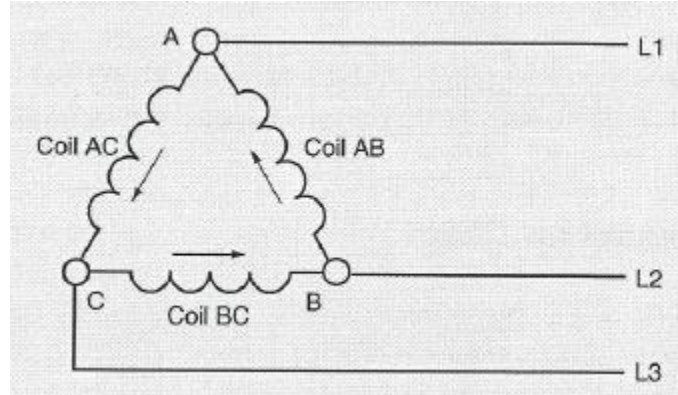
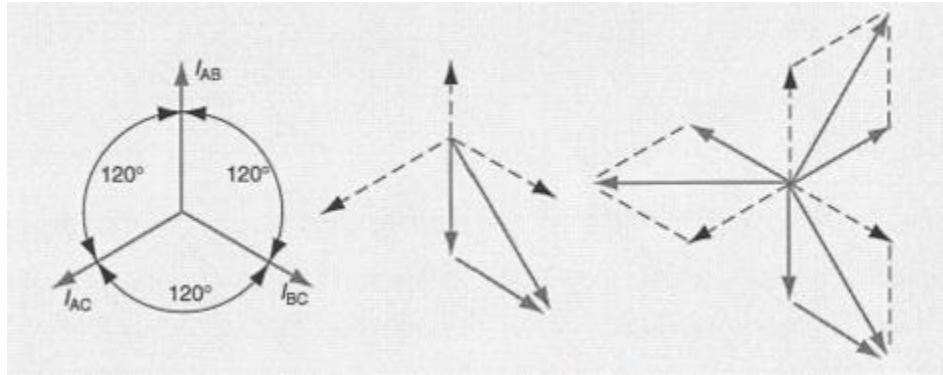

Figure 7.7: Three-Phase Delta-Connected Alternator
Figure 7.8: Vector Diagram for Currents
7-19 Some alternators are connected so that the three coils form a continuous loop. Their ends are connected together in series as shown in Figure 7.7. Such an alternator is said to be *delta-connected* because in a diagram, the three coils make a triangular shape that looks like the Greek capital letter *delta*.
7-20 Line connections are made at the junctions between coils, as shown in Fig. 7-7. Because of these connections, the potential difference between any two terminals equals the potential difference across a single coil.
- 7-23 The phase currents of a delta-connected alternator are shown by the arrows in Figure 7.7. The vector diagram representing these currents is shown in Figure 7.8. To calculate the current in lines L1, L2, or L3, you must add the currents in the two coils connected to the line. This addition is a vector addition of the vertical components of the two current vectors.